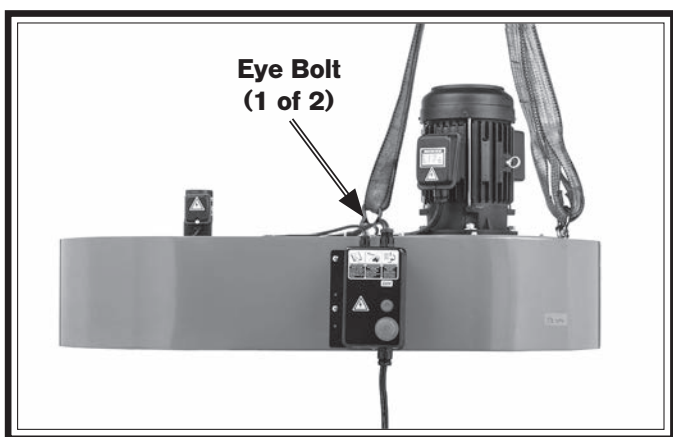

Figure 14. Lifting SB1092 housing assembly.
5. Use a hoist or forklift with lifting hook through eye bolts to lift housing assembly (see **Figure 14**).